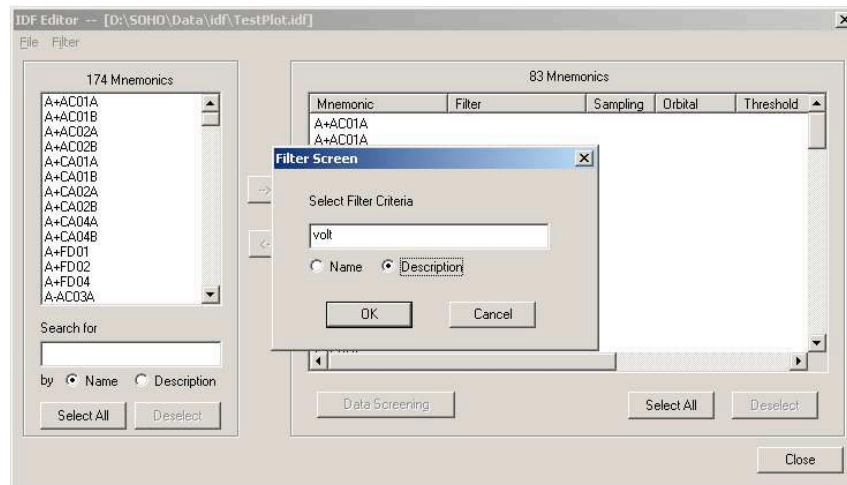

Figure 68: IDF Editor Display Filter
- Type the display-window filter criteria (see Figure 68).
- Erase the filter criteria from the filter criteria box (see Figure 68).